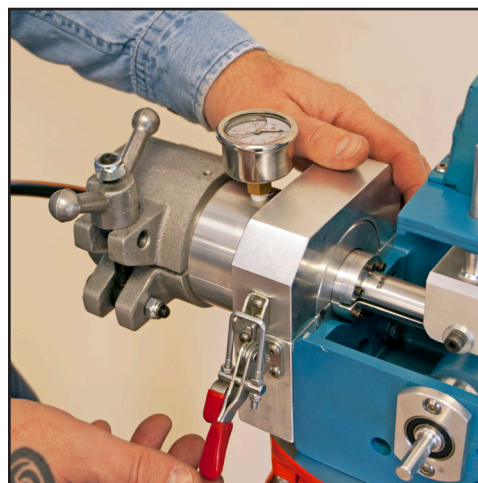

Figure 10. Install Back Clamp
2. Secure drive assembly by closing and locking the back clamp with locking clip. (See figure 10)